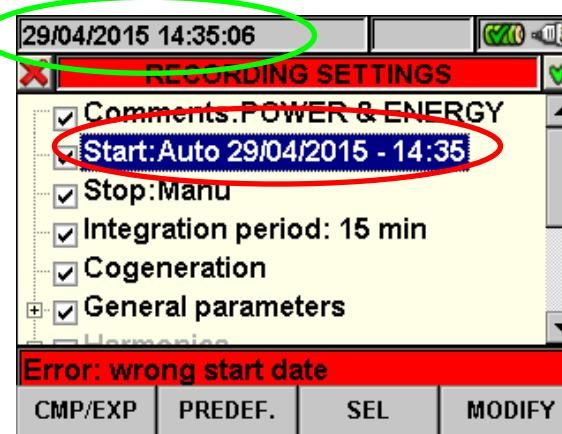

Fig. 91: Wrong Date/Hour
3. Press **SAVE** or **ENTER** keys (or smart icon  ) to saving the settings. The screen of Fig. 91 is shown if a wrong Date/Hour is set. Under this condition the **SAVE** key does not have any effect. Repeat the steps 2 and 3 and set corrects values before pressing **SAVE** key again.